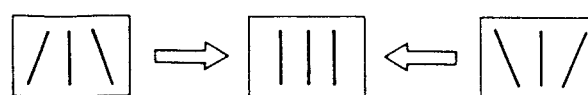

Fig. 29-5
3. Adjust SIDE PIN TILT by turning DA board RV19 as shown in Fig. 29-5.